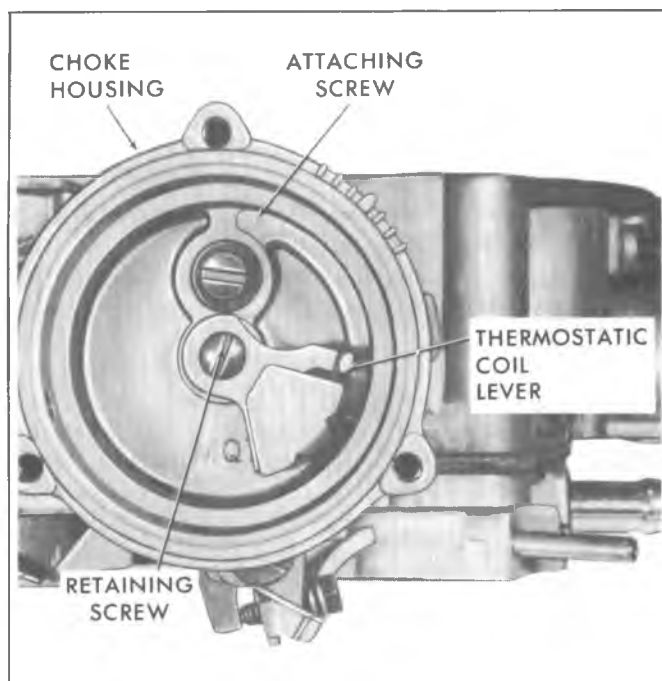

Fig. 6C4-33--Removing Choke Housing
6. To disassemble intermediate choke shaft from choke housing, remove coil lever retaining screw at end of shaft inside the choke housing (Fig. 6C4-33). Then remove thermostatic coil lever from flats on intermediate choke shaft. Remove intermediate choke shaft from the choke housing by sliding outward. The fast idle cam can now be removed from the intermediate choke shaft (Fig. 6C4-34).
1. Remove fuel inlet nut, gasket and filter (Fig. 6C4-35).